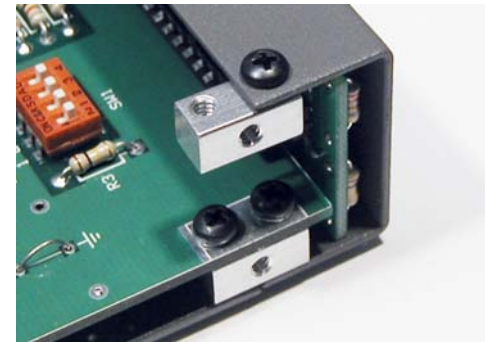

Figure 42. Attaching 2-D Fasteners to Cabinet End Covers.
- Remove paint overspray from around the screw holes on the inside surface of the cabinet back panel where the 2-D fasteners will be attached (see Figure 42). The 2-D fasteners should make good electrical contact with the back panel
Attach a 2-D fastener to the each screw hole at the top corners of the front and rear chassis end panels with 3/16" (4.8 mm) screws. Be sure the widest side of each 2-D fastener is facing toward the end of the panel so the edge lines up flush with the edge of the panel as shown in Figure 42.